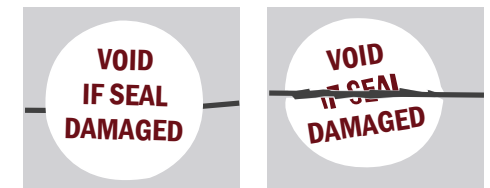

Figure 25 Example of a tamper-evident seal that is intact (left) and broken (right)
3. **Inspect the temper-evident seals on the Handset and Base Station. Do NOT use the device if any of the seals are broken (see figure 25). Contact Inovio for further instruction if any of the tamper-evident seals are broken.**